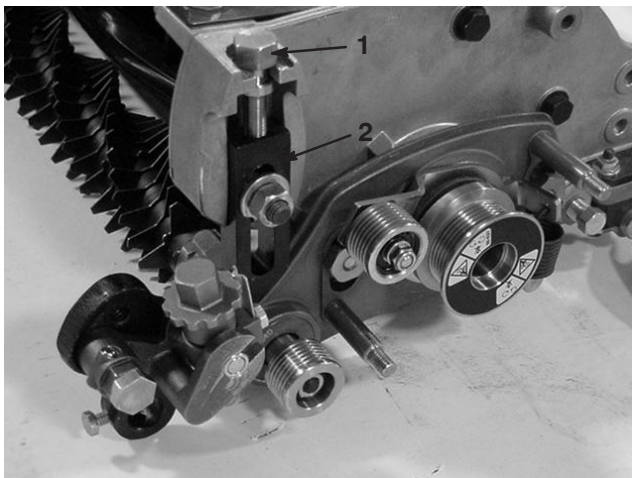

Figure 14
25. Thread the height of cut adjusting screw into top of left-hand adjuster arm assembly (Fig. 14).
26. Install the left-hand adjuster arm assembly to the cutting unit side plate using the existing carriage bolt, nut, and washer. Make sure that the rod end of the height-of-cut arm assembly slides into the bushing in the hole in the groomer drive assembly (Fig. 14).
29. Thread the height of cut adjusting screw into top of right-hand adjuster arm assembly (Fig. 14).
31. Install the right-hand adjuster arm assembly to the cutting unit side plate using the existing carriage bolt, nut, and washer (Fig. 14). Make sure that the rod end slides into the bushing in the hole in the groomer drive assembly.